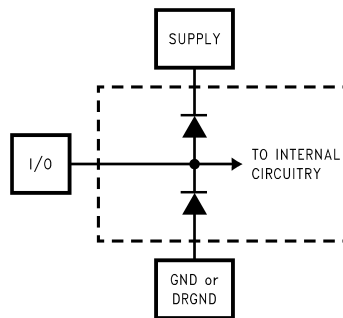

Figure 2.
- (1) The inputs are protected as shown below. Input voltage magnitudes above  $V_A$  or below GND will not damage this device, provided current is limited, see Note 4 in the Absolute Maximum Ratings table. However, errors in the A/D conversion can occur if the input goes above  $V_A$  or below GND by more than 100 mV. As an example, if  $V_A$  is 4.75V, the full-scale input voltage must be ≤4.85V to ensure accurate conversions (see Figure 2).
- (2) To guarantee accuracy, it is required that  $|V_A - V_D| \leq 100\text{ mV}$  and separate bypass capacitors are used at each power supply pin.
- (3) Typical figures are at  $T_A = T_J = 25^\circ\text{C}$ , and represent most likely parametric norms. Test limits are guaranteed to AOQL (Average Outgoing Quality Level).
- (4) Integral Non Linearity is defined as the deviation of the analog value, expressed in LSBs, from the straight line that passes through positive and negative full-scale.
- (1) The inputs are protected as shown below. Input voltage magnitudes above  $V_A$  or below GND will not damage this device, provided current is limited, see Note 4 in the Absolute Maximum Ratings table. However, errors in the A/D conversion can occur if the input goes above  $V_A$  or below GND by more than 100 mV. As an example, if  $V_A$  is 4.75V, the full-scale input voltage must be  $\leq 4.85V$  to ensure accurate conversions (see Figure 2).
- (3) With the test condition for  $V_{REF} = +2.0V$  (4VP-P differential input), the 12-bit LSB is 977 μV.
- (4) Typical figures are at  $T_A = T_J = 25^\circ\text{C}$ , and represent most likely parametric norms. Test limits are guaranteed to AOQL (Average Outgoing Quality Level).
- (2) To guarantee accuracy, it is required that  $|V_A - V_D| \leq 100$  mV and separate bypass capacitors are used at each power supply pin.
- (3) With the test condition for  $V_{REF} = +2.0V$  (4VP-P differential input), the 12-bit LSB is 977  $\mu V$ .
- (4) Timing specifications are tested at TTL logic levels,  $V_{IL} = 0.4V$  for a falling edge and  $V_{IH} = 2.4V$  for a rising edge.
- (5) Typical figures are at  $T_A = T_J = 25^\circ C$ , and represent most likely parametric norms. Test limits are guaranteed to AOQL (Average Outgoing Quality Level).